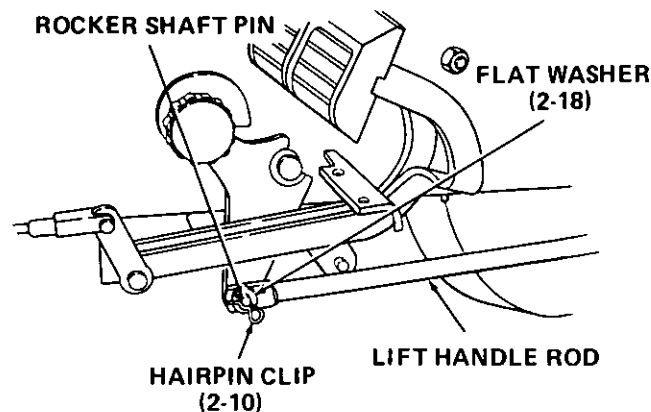

Figure 36
- e. FOR SUPER GARDEN TRACTORS ONLY, adjust lift handle rod until hole in end of rod lines up with pin on rockshaft lift arm. Secure with flat washer (2-18) and hairpin clip (2-10). Refer to Figure 36.